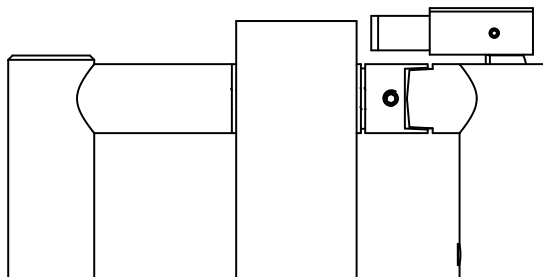

Figure 3-5
- The Latch can be adjusted up and down. Figures 3-5 and 3-6 show the maximum and the minimum dimensions for the Strike location.
- Figure 3-5 is for the maximum height from the top of the Tube to the bottom of the Strike.